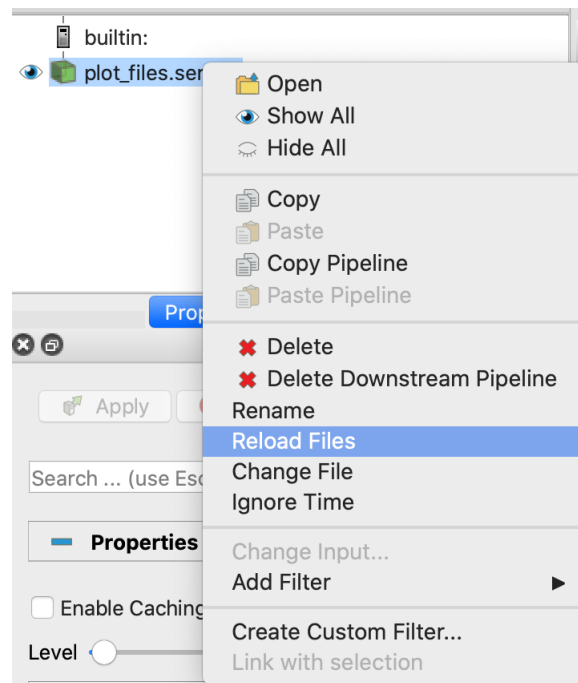
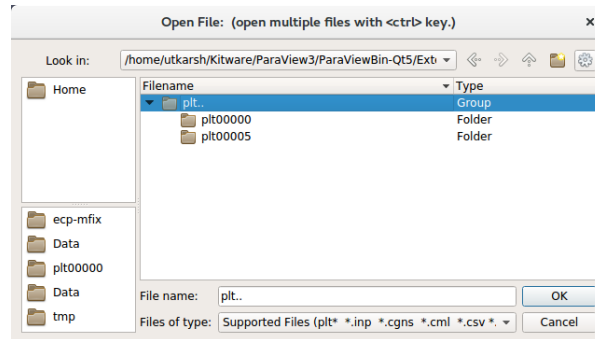

Fig. 18.2: : File dialog in ParaView showing how to reload a series file
Fig. 18.3: : File dialog in ParaView showing a group of plotfile directories selected
2. Navigate to your run directory, and select the fluid or particle plotfile. Note that you can either open single or multiple plotfiles at once by selecting them one by one or select a file ensemble, labeled as `plt..` and indicated as a Group in the “Type” column of the file explorer (see Fig. 18.3). In the latter case, ParaView will load the plotfiles as a time series. ParaView will ask you about the file type – choose “AMReX/BoxLib Grid Reader” or
Open ParaView, and then select “File” → “Open”. In the “Files of Type” dropdown menu (see Fig. 18.3) choose the option All Files (*). Then choose `plot_files.series` and click “OK”. Now the plotfiles have been loaded as a Group as in Step 2 of section ParaView. Now, you can follow the steps 2 to 7 in the section ParaView to plot. As new plotfiles are generated, just re-run the bash script to re-generate the `plot_files.series` file, right-click on `plot_files.series` in the ParaView menu, and click on “Reload Files” (see Fig. 18.2).
1. Run ParaView v5.7, and select “File” → “Open”. You will see a combined “plt..” group. Click on “+” to expand the group, if you want to inspect the files in the group. You can select an individual plotfile directory or select a group of directories to read them as a time series, as shown in Fig. 18.3, and click “OK”. ParaView will ask you about the file type – choose “AMReX/BoxLib Particles Reader”.